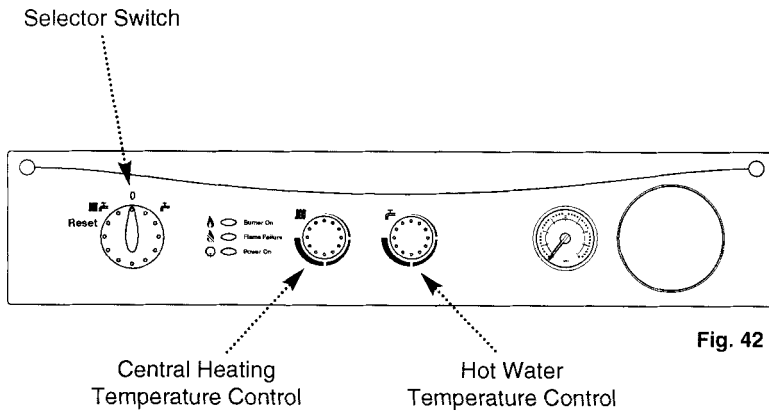

Fig. 42
2. Set the hot water and central heating temperature controls to maximum and the selector switch to the OFF position (Fig. 42).
6. Turn the selector switch to the Central Heating and Domestic Hot Water position (暖气). The power ON light (开) will illuminate (Fig. 42).